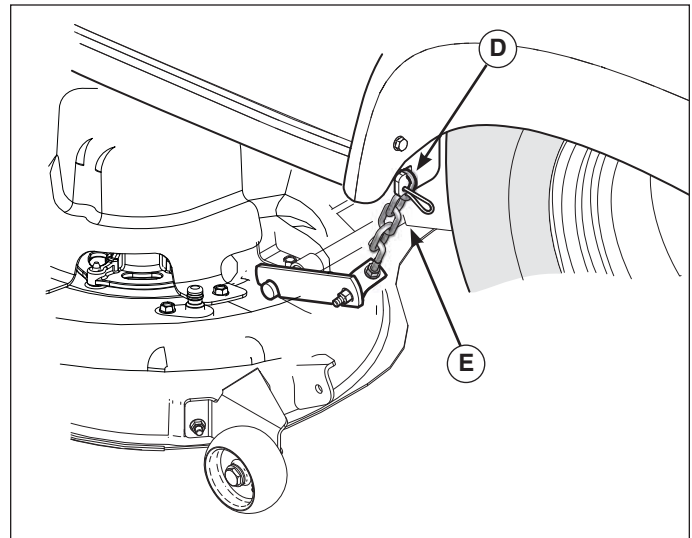

Figure 19
6. Remove the cotter pin (**D**, Figure 19) and lift chain (**E**) from the hook in tractor frame. Repeat for the other side.
5. Install the lift chain (E, Figure 19) onto hook in tractor frame and secure with cotter pin (D). Repeat for the other side.